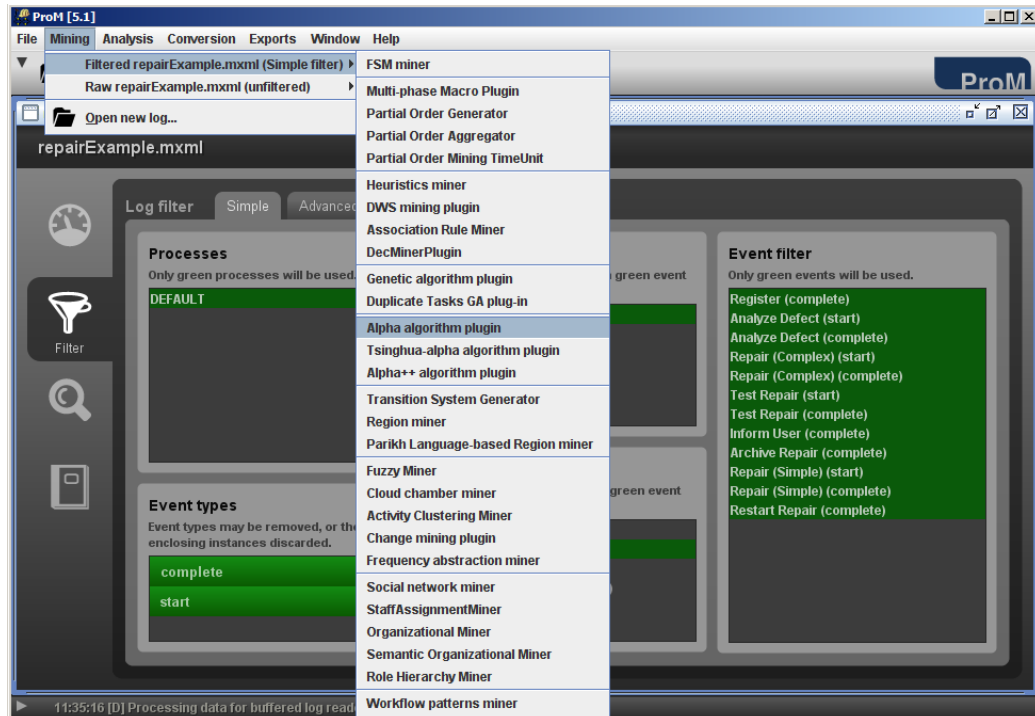

Figure 3.1: Screenshot of the mining plug-ins in ProM.
ProM supports various plug-ins to mine the control-flow perspective of process models, as shown in Figure 3.1. In this tutorial, we will use the
3. Run the *Alpha algorithm plugin* by choosing the menu *Mining* → *Filtered [log name...] (Simple filter)* → *Alpha algorithm plugin* (cf. Figure 3.1).